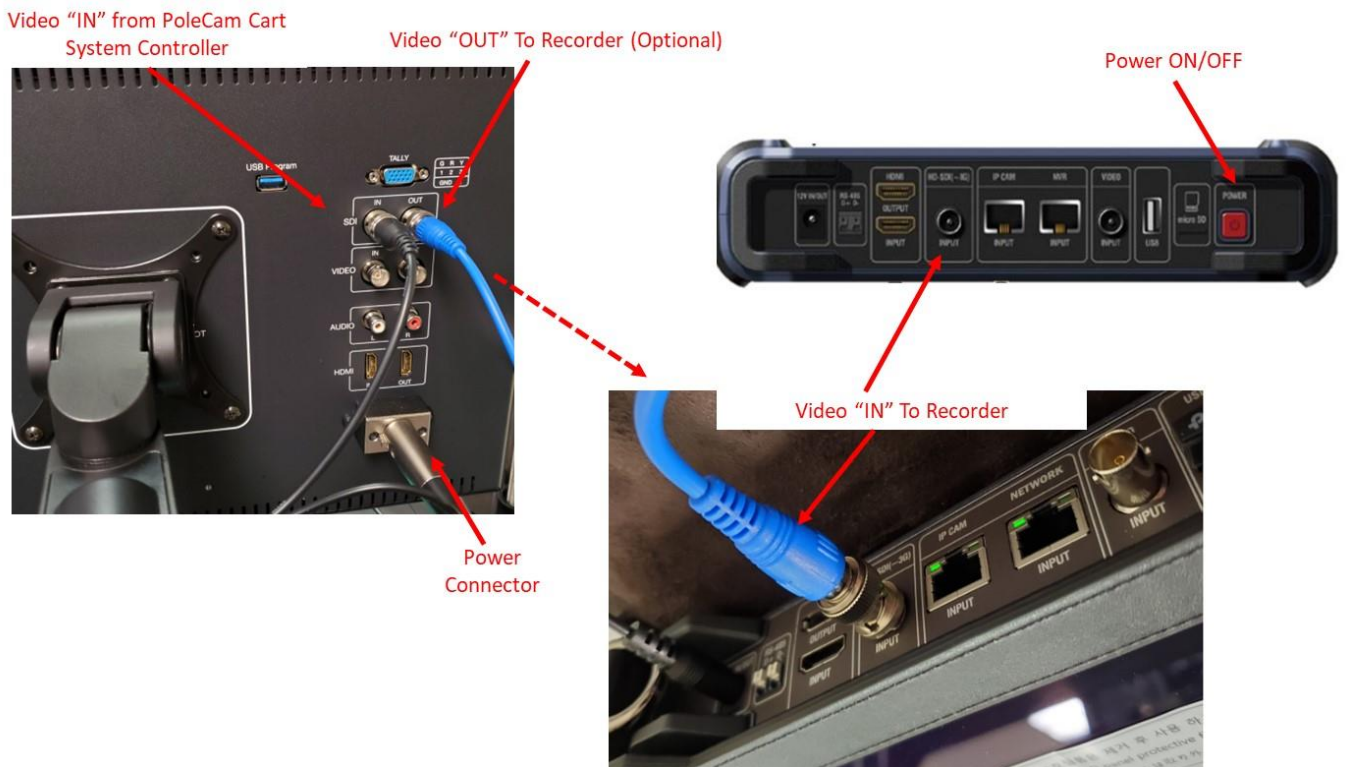

Figure 15 External Recording Connection (Optional)
- Connect external recording device (Optional) as shown in Figure 15